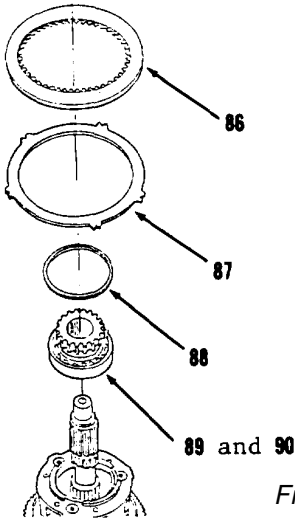

Figure 14-62.
- 42. Remove two discs (86), one plate (87) and ring (88, Figure 14-62).
- 43. Remove items 89 and 90 as an assembly.